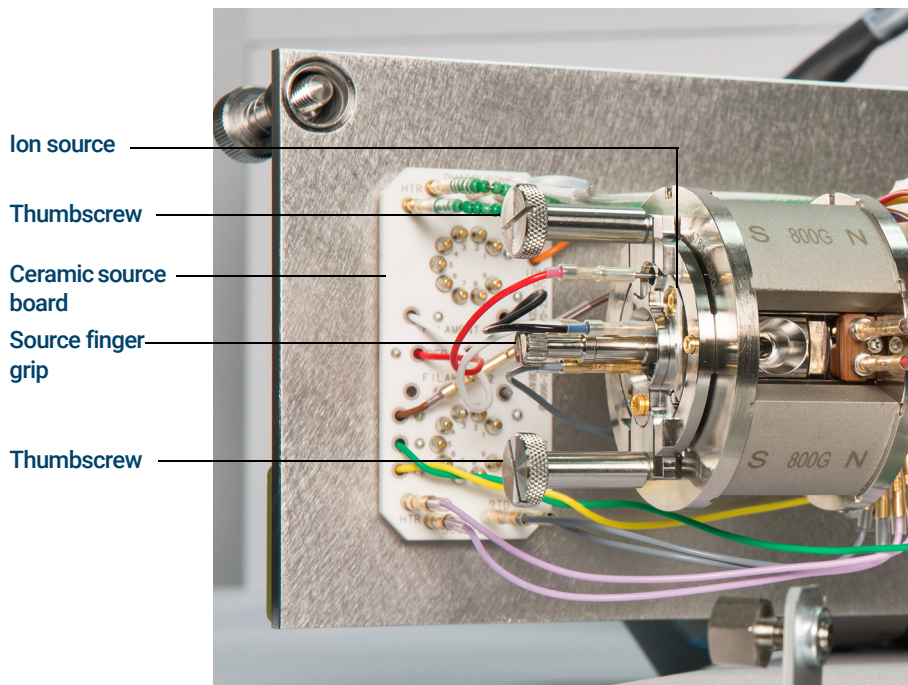

Figure 19. The LE-EI ion source before removal
- 3 Remove the two large thumbscrews that hold the ion source in place. (See **Figure 19**, “The LE-EI ion source before removal,” on page 86.)
- 6 The source contacts have spring loaded pins so some force must be applied to pull the source out. (See **Figure 19.**)